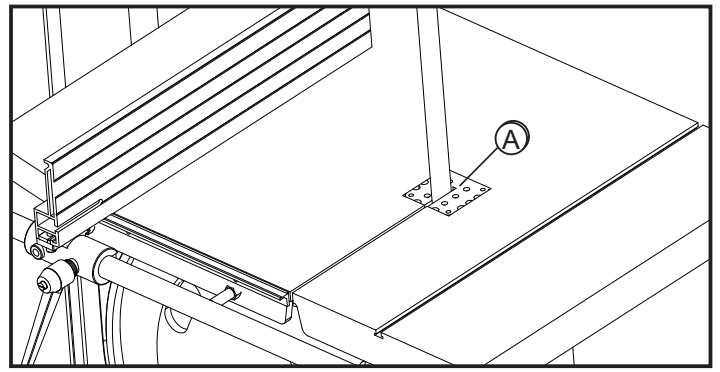
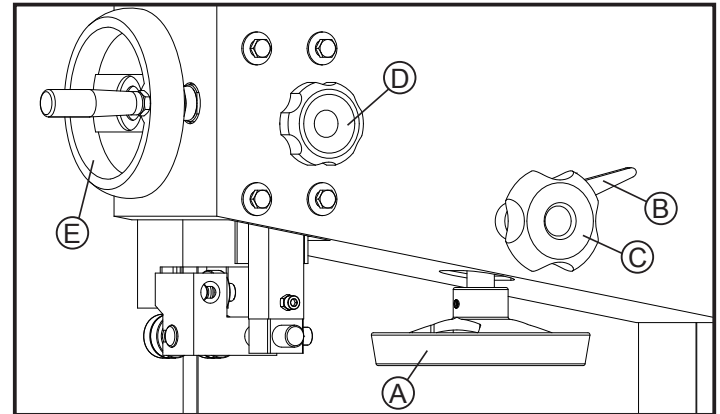

Fig.4.4.1
Fig.4.4.2
- To mount blade first remove the table insert (A of FIG.4.4.1) Place the blade onto the bandwheel checking the teeth are in a correct position, and then tighten the tension using the handwheel (A of FIG.4.4.2). The correct tension value is indicated on the tension scale inside the upper door, the indicated value corresponds to the width of the blade.
- Turn the bandwheels manually, checking that the blade does not interfere with any fixed parts and that the blade is placed correctly on the bandwheels. The points of the teeth should slightly protrude over the edge of the bandwheels. To adjust the blade position on the bandwheels slacken the locking lever (B of FIG.4.4.2), and then turn the knob (C of FIG.4.4.2): the blade will move inwards when turn the knob clockwise and the blade will move further out when turn the knob anticlockwise; A quarter of one circle is sufficient to make a noticeable displacement. Tighten the locking lever after the blade is positioned correctly.